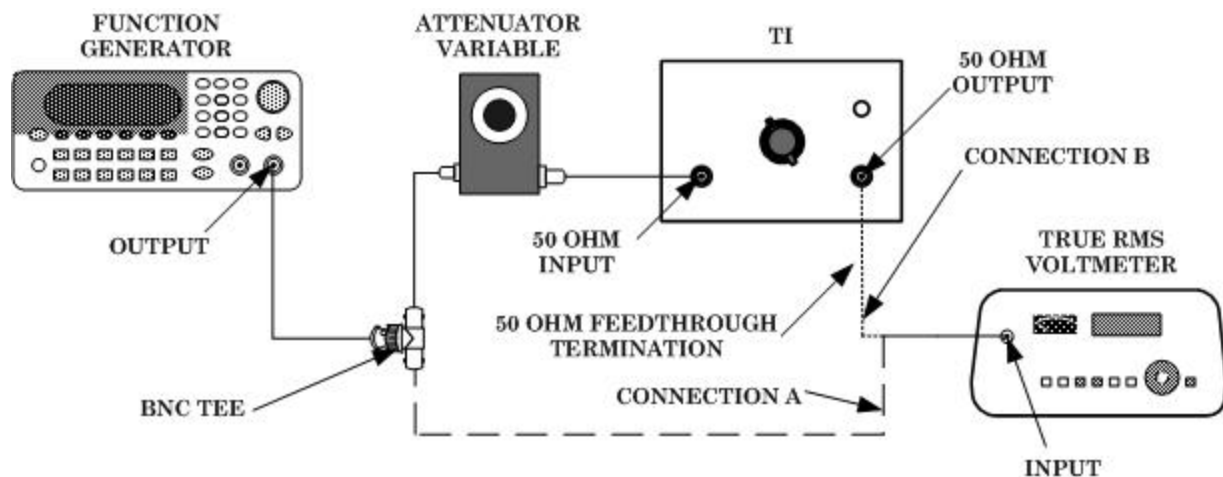

Figure 1. Gain setup.
- (1) Connect equipment as shown in figure 1 connection A.
- (2) Set step attenuator **dB** switch to **40**.
- (3) Set true rms voltmeter **RANGE** to **AUTO**, **DISPLAY** to **dB** and **dBm REFERENCE (Ω)** dial to **50**.
- (4) Adjust signal generator frequency for 500 kHz and output amplitude controls for true rms voltmeter indication of 0 on the **dB** scale.
- (5) Set function generator **Output** to off and connect equipment as shown in figure 1 connection B.
- (6) Set function generator **Output** to on. True rms voltmeter will indicate between -0.5 and +0.5 dB.
- (7) Set TI **GAIN (DB)** switch to **20**.
- (8) Set step attenuator **dB** switch to **20**.
- (9) True rms voltmeter will indicate between -1.0 and + 1.0 dB.
- (10) Adjust autotransformer output control for meter indication of 105, 125, and 115 vac. True rms voltmeter will indicate between -1.0 and +1.0 dB at each setting.
- (11) Set function generator **Output** to off. Connect equipment as shown in figure 1 connection A.
- (12) Set function generator **Output** to on and adjust function generator output amplitude controls for true rms voltmeter indication of -3.8 dB.
- (13) Set function generator **Output** to off. Connect equipment as shown in figure 1 connection B.
- (14) Set step attenuator **dB** switch to **40**.
- (15) Set TI **GAIN (DB)** switch to **40**.
- (16) Set function generator **Output** to on. True rms voltmeter will indicate between -2.8 and -4.8 dB.
- (17) Set function generator **Output** to off.